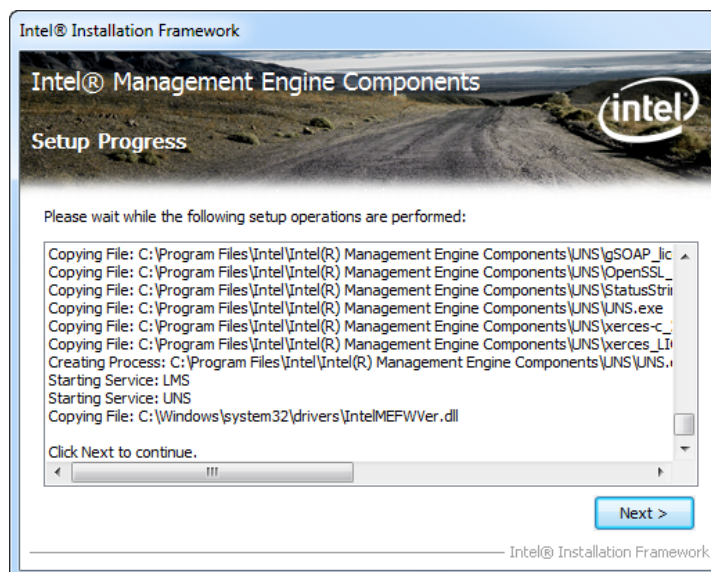

Figure 8-25: Intel® ME Driver Setup Operations
Step 11: **Setup Operations** are performed as shown in Figure 8-25.